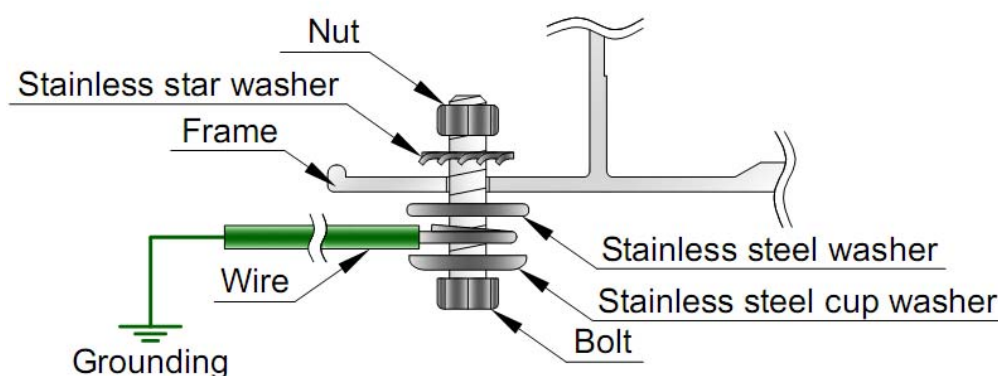

Fig. 12: Grounding connection of the PV module [UL only]
- [UL only] Grounding cables must be bolted with washers (Fig.12).
- [UL only] Attach the equipment grounding conductor to the module frame by a **No.6 (M3)** bolt, stainless steel cup washer, stainless steel washer, star washer (Fig.12).